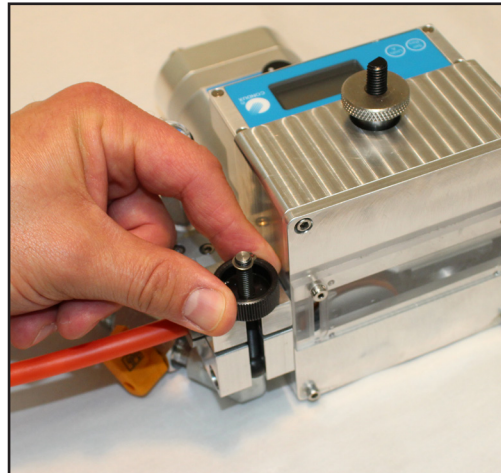

Figure 21. Loosen Knob
2. Loosen the knob on the Air Block assembly and open the air block (See figure 21).